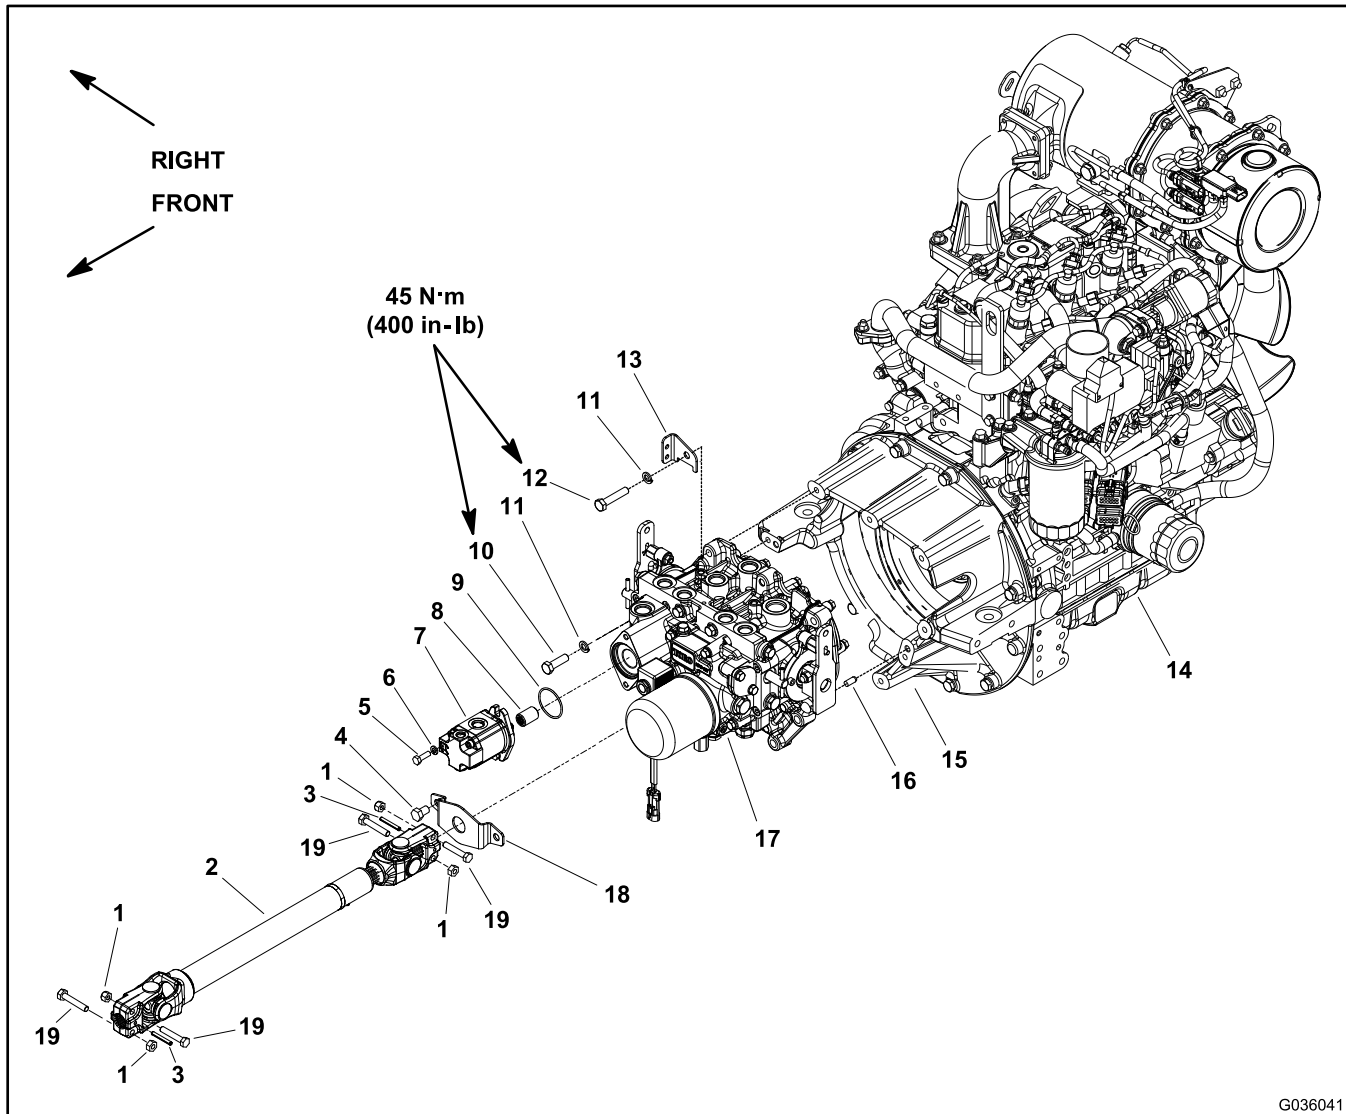

Figure 73
12. Remove the 2 bolts (item 19 in Figure 73), 2 locknuts, and roll pin that secures the driveshaft to the transmission, and disengage the driveshaft from the transmission.
13. Remove the 7 bolts (items 10 and 12 in Figure 73) and 7 lock washers that secure the transmission to the flywheel housing. Note the location of the shorter bolt (35 mm) for assembly purposes.
15. Locate and note the location of the 2 dowel pins (item 16 in Figure 73) from the transmission and flywheel housing.
6. Carefully place the 2 dowel pins (item 16 in Figure 73) in the flywheel housing. Ensure that the dowel pins are perpendicular to the face of housing during installation.
9. Assemble the transmission to the flywheel housing with the 7 bolts (items 10 and 12 in Figure 73) and 7 lock washers. Ensure that the shorter (35 mm) bolt (item 10 in Figure 73) is properly positioned. Torque the bolts to **45 N·m (400 in-lb)**.
10. Install the 2 bolts (item 19 in Figure 73), 2 locknuts, and roll pin that secures the driveshaft to the transmission.